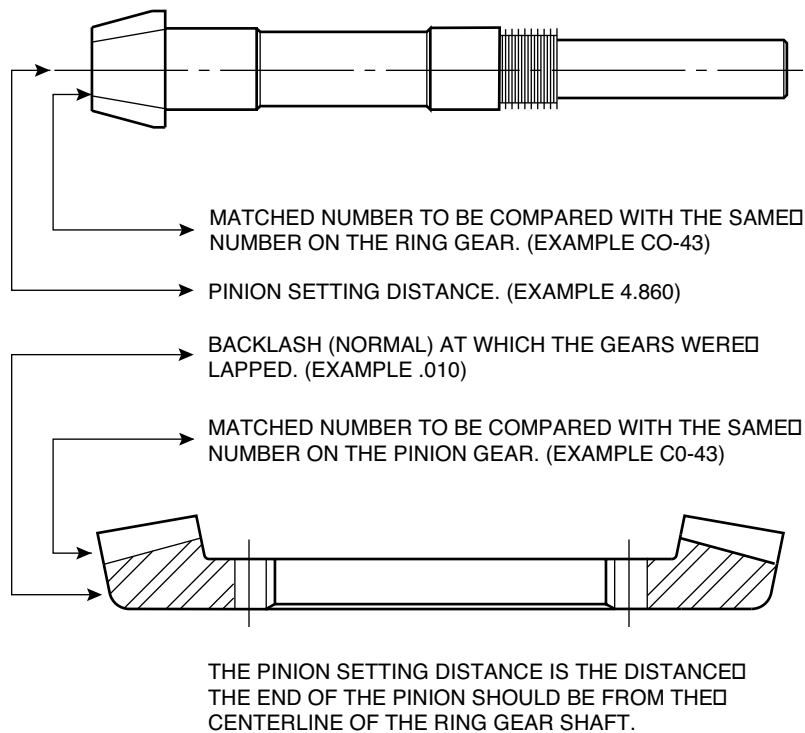

FIGURE 4 Gear Match Numbers and Setting Data
Note—The thickness of the shim pack (320) is important in resetting the gears. The shim pack should either be saved or carefully measured with a micrometer. If the gears are to be replaced, record the pinion setting distance that is etched on the pinion gear. See Figure 4.
4. Remove bearing retainer and shim pack (420) from top of case.
Before assembling a new pinion gear in the pinion cage, check match numbers on pinion gear and spiral bevel ring gear to be certain that they are a matched set. Gears are lapped in matched sets at the factory and should not be separated. Numbers are etched on both the pinion and ring gear as illustrated in **Figure 4**.
1. Place oil slinger (301) on pinion shaft.
2. Press head bearing cone (311) on pinion shaft making sure oil slinger and bearing are against gear.
5. Press tail bearing cone (312) on pinion shaft until it mates with its bearing cup.
7. Install O-ring (503) in groove on pinion cage.
10. Record the pinion setting distance that is etched on the pinion gear. See **Figure 4**.